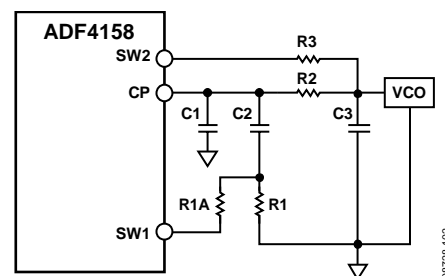

Figure 46. Fast-Lock Loop Filter Topology—Topology 2
- Connect an extra resistor (R1A) directly from SW1, as shown in Figure 46. The extra resistor must be chosen such that the parallel combination of an extra resistor and the damping resistor (R1) is reduced to ¼ of the original value of R1.